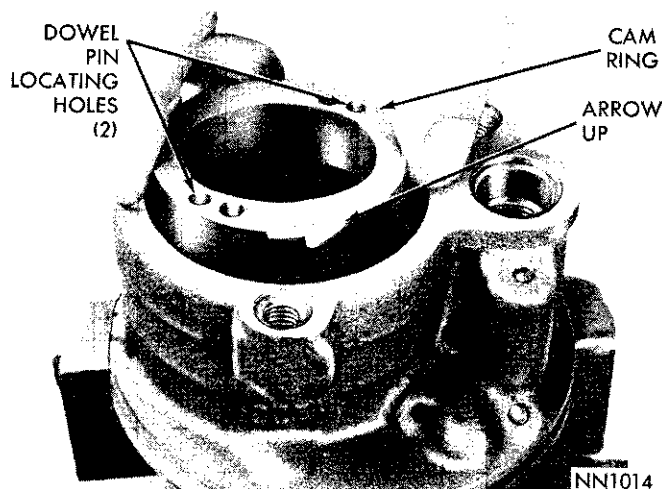

Fig. 14—Installing Cam Ring
(8) Slide cam ring over rotor on dowel pins with arrow on ring facing "UP" (Fig. 14).